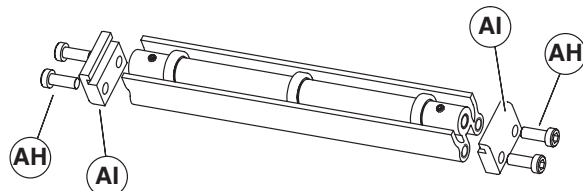

Figure 16
1. Locate return rollers. Exploded view shown in Figure 16.
2. Remove screws (Figure 16, item AH) and clips (AI) from roller assembly.